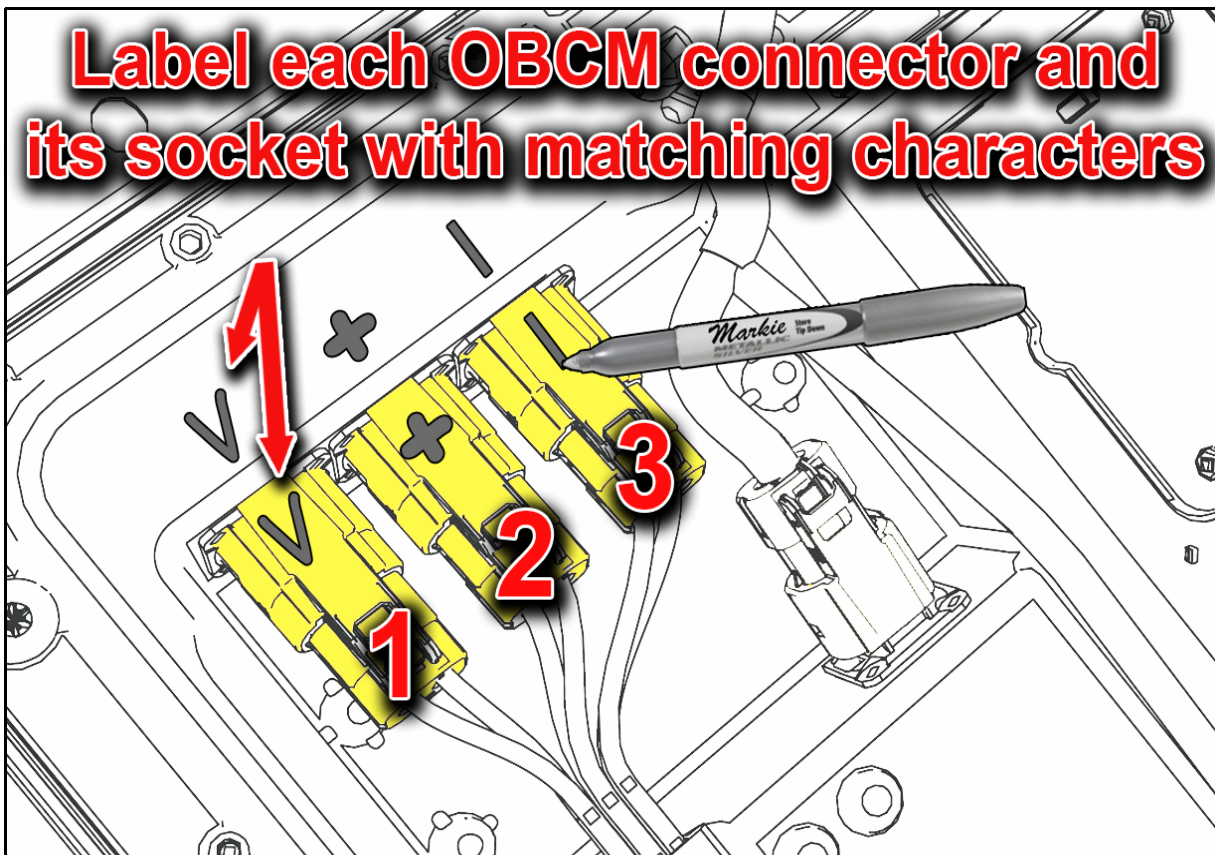

Figure 3G
3.7. Remove the three Auxiliary HV lines from battery. They have a two stage lock. Press the outside orange tab and pull connector back slightly. Then push the red tab in the middle and remove the connector completely (Figure 3G).